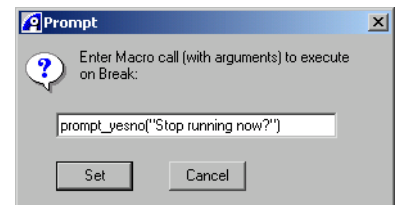

Figure 5-17 Breakpoint macro entry prompt
4. Select the option **User Macro...** to display the data entry prompt, shown in Figure 5-17.
The predefined macro shown in Figure 5-17 displays a message box to halt execution if the **Yes** key is pressed.